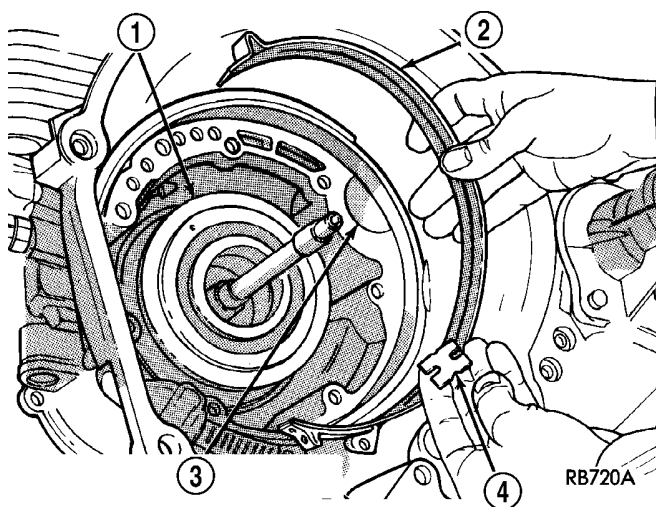

Fig. 30 Kickdown Band and Strut
(30) Remove kickdown band and strut (Fig. 30).